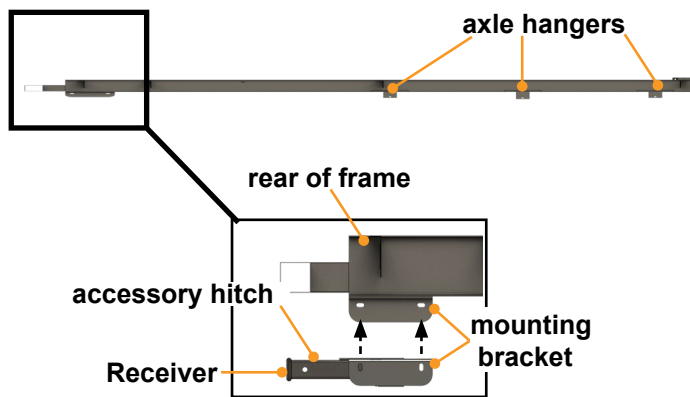

Fig.1
1. Locate one of the accessory hitch mounting brackets at the rear of the trailer frame (Fig.1).
2. Position the accessory hitch so that the mounting holes on the hitch are aligned with the holes in the mounting bracket on the frame (Fig.1). As needed, use a jack stand or an additional person to assist in aligning mounting bracket holes.
**NOTE:** The receiver (Fig.1) of the accessory hitch should be facing the rear of the trailer.